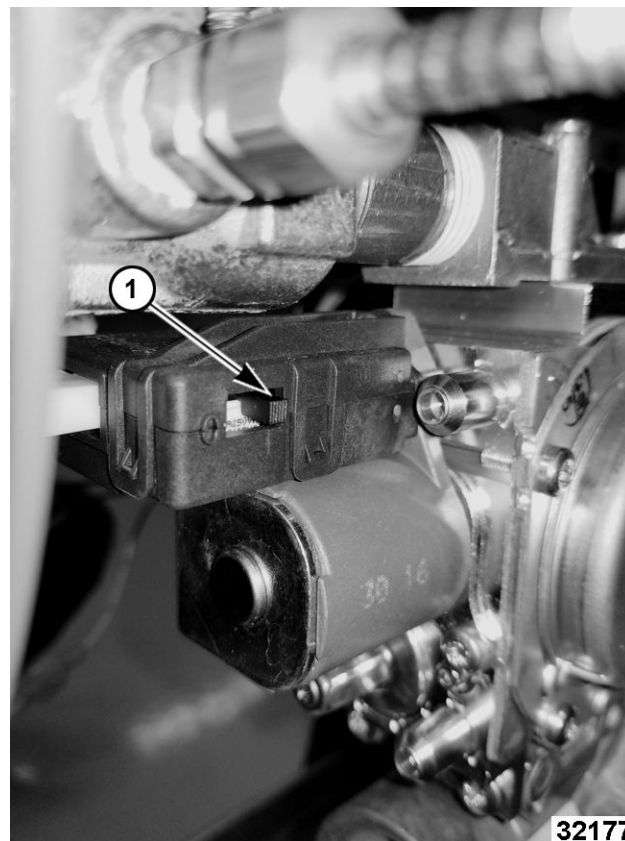

Fig. 48
3. Check solenoid on/off switch to verify it is in the ON (Fig. 48) position.